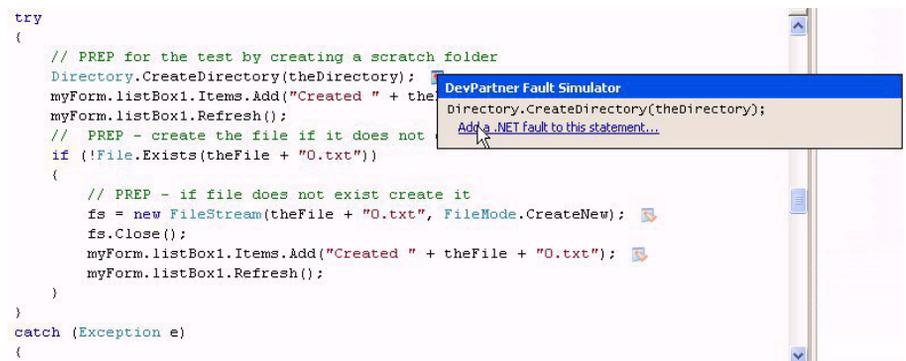

Figure 7-3. Shows the Show Fault and Exception Handler Indicators Option
- ◆ Use visual indicators via the **Show Fault and Exception Handler Indicators** option on the **Fault Simulator** menu in Visual Studio (see Figure 7-3).